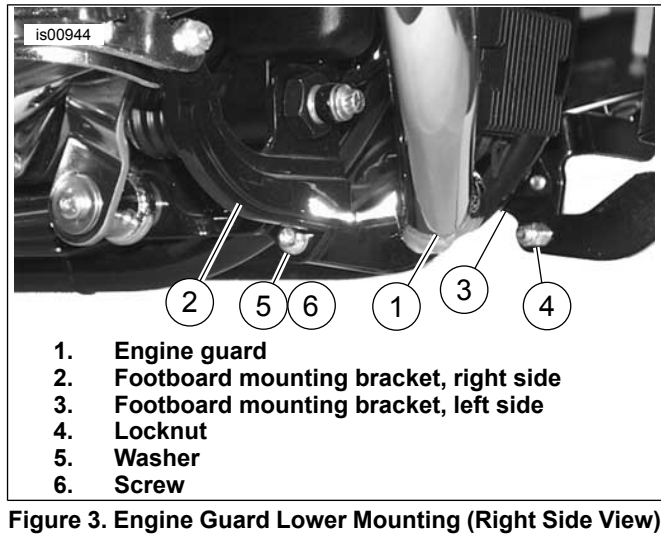

Figure 3. Engine Guard Lower Mounting (Right Side View)
4. See Figure 3. On the right side of the motorcycle, attach the engine guard (1) to the footboard mounting bracket (2) with a screw (6), washer (5) and locknut (4) from the kit. Tighten finger-tight.
5. Repeat Step 4 for left side footboard mounting bracket (3). Tighten the screw to 44 N·m (33 ft-lbs).